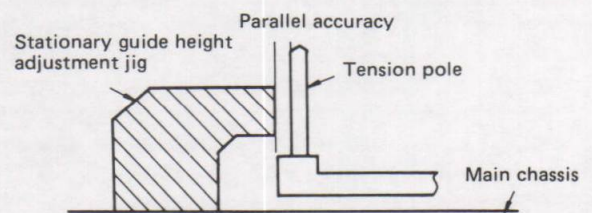

Figure 28
- ① Remove the cassette compartment.
- ② Set the stationary guide height adjustment jig in position as shown in Fig. 28.
- ③ In this position, check and confirm the verticality of the tension pole.